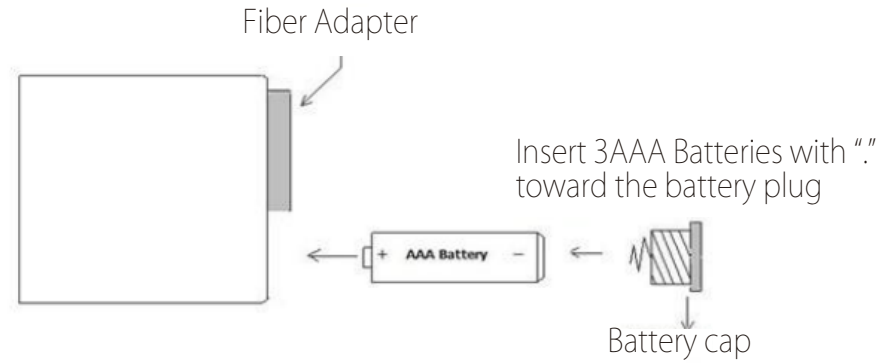

Figure 2
2. You'll need to insert 3AAA batteries. Unscrew and remove the "Battery Cap".Insert the batteries with the "-" side up towards the Battery Plug;"+" side down towards the Light Switch (see Figure 2). Replace the Battery Cap and tighten.